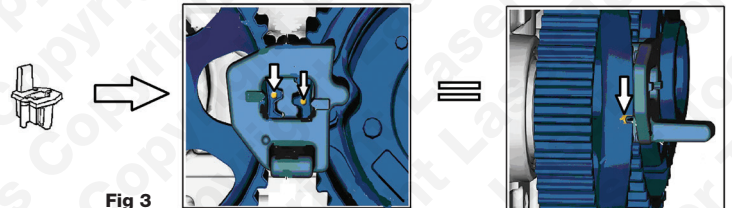

Fig 3
Used to lock the two camshaft pulleys together in their timed position. Loosen both pulleys using a suitable pulley holding tool and use (C) to set the pulleys in the correct position as shown in Fig.3.